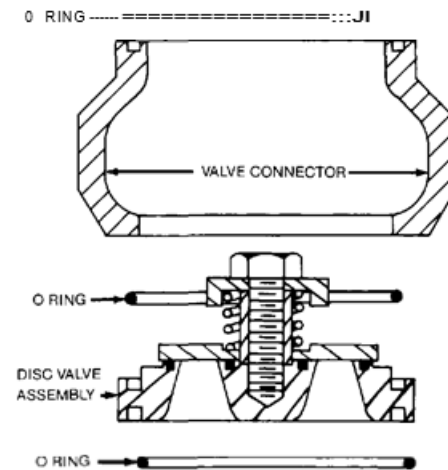
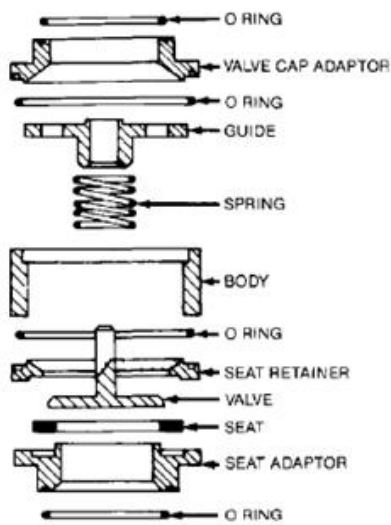
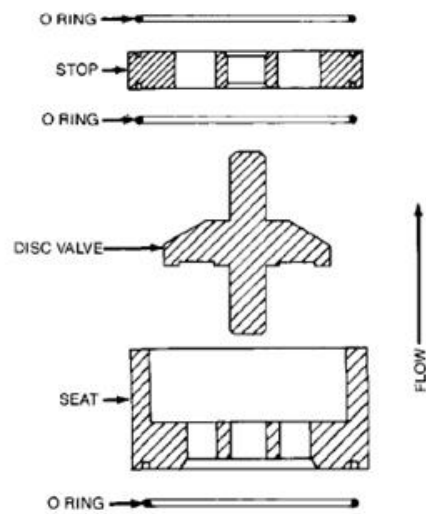

Fig. 38
Fig. 39
Fig. 40
- c) Disc Valves (Figure 38), for flows over 400 gph. Also available with elastomer seats (Figure 39), and in TFE (Figure 40).
The internal type valve can be adjusted by turning the adjustment nut (Figure 39) to vary the spring tension on the valve stem. Normally the distance between the adjustment nut and endcap (dimension "A") should be set to 13/16" (20.6mm). When the valve is working properly it should just "crack" open on every third or fourth stroke of the pump. If the spring is set too tight (dimension A is less than 13/16") large air bubbles will form in the hydraulic system and will be seen coming out of the automatic bleeder. If the spring is set too loosely (dimension A is greater than 13/16") then excess oil will be drawn into the hydraulic system which will cause the pressure relief valve to operate. Use dimension "A" as a starting point and carefully adjust the nut in either direction until the valve operates properly.